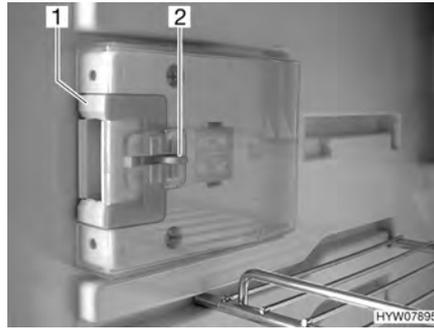
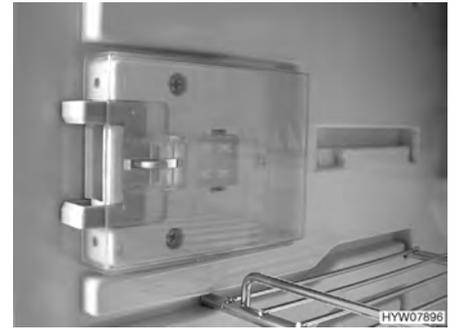

Fig. 164 Locking device in normal position
Fig. 165 Locking device in ventilation position
- Press down the unlocking device (Fig. 164,2).
- Push locking device (Fig. 164,1) forwards (Fig. 165).